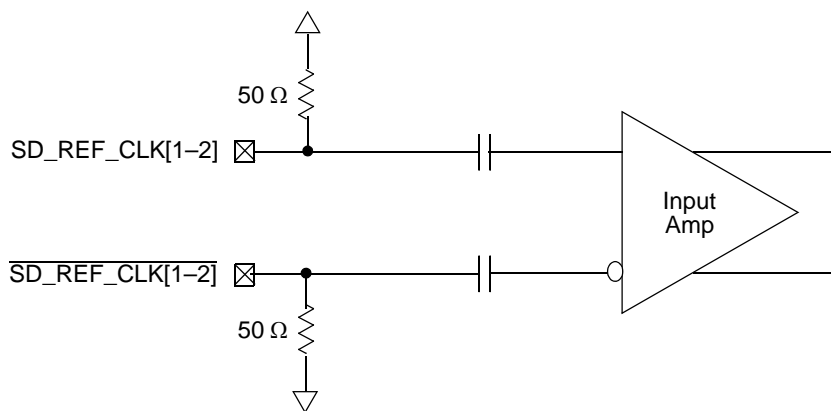

Figure 4. Receiver of SerDes Reference Clocks
The SerDes reference clock inputs are applied to an internal PLL whose output creates the clock used by the corresponding SerDes lanes. The SerDes reference clock inputs are SD_REF_CLK1/SD_REF_CLK1 or SD_REF_CLK2/SD_REF_CLK2 . Figure 4 shows a receiver reference diagram of the SerDes reference clocks.
- The $SD_REF_CLK[1-2]$ and $\overline{SD_REF_CLK[1-2]}$ are internally AC-coupled differential inputs as shown in Figure 4. Each differential clock input ($SD_REF_CLK[1-2]$ or $\overline{SD_REF_CLK[1-2]}$) has on-chip 50- Ω termination to SXC_{VSS} followed by on-chip AC-coupling.